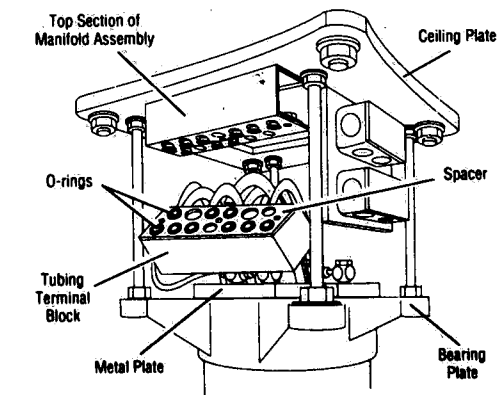

Figure 6-2. Manifold Assembly
4. Remove three screws and washers from bottom of manifold. Lower tubing terminal block and rest on metal plate (see Figure 6-2).